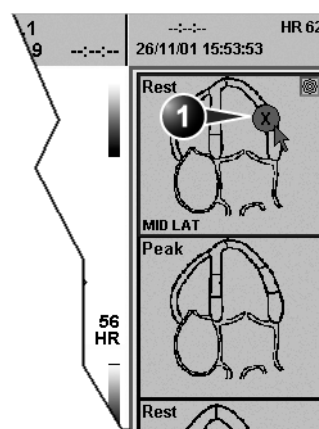

Figure 4-10: Segment scoring
2. Trackball to a segment in one of the scoring diagrams and press **SELECT**. The *Score pop-up list* is displayed (see Figure 4-10).
The score is displayed in the relevant segment area in the diagram (see Figure 4-10).
The blood pressure (systolic and diastolic) for the selected view is displayed over the scoring diagrams (Figure 4-10).